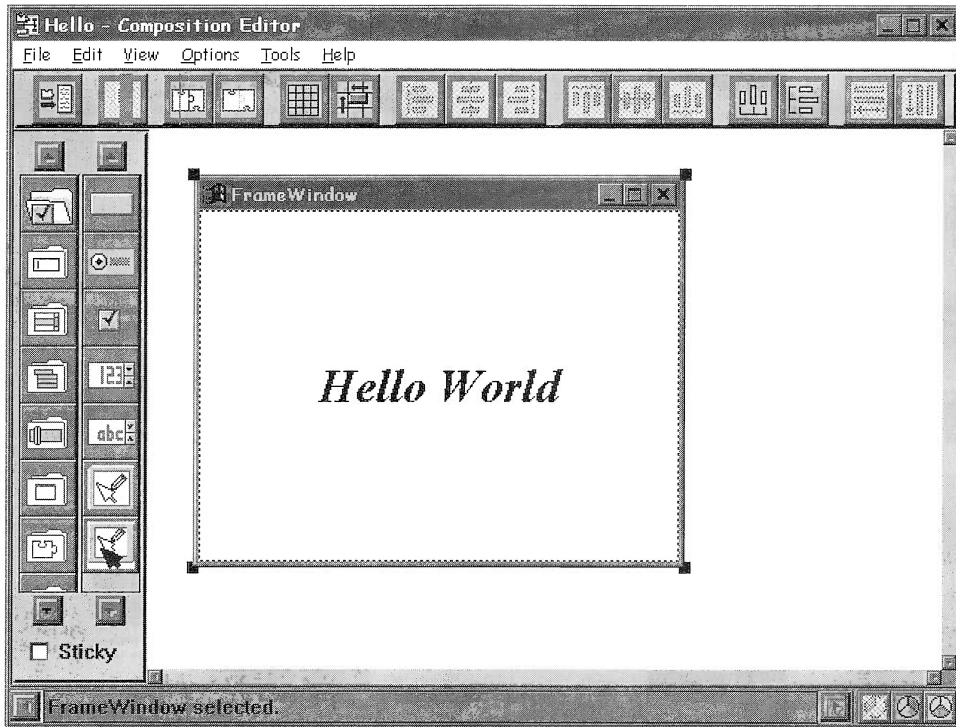

Figure 25: Hello World with formatting applied
- ❑ Select **OK** on the font dialog box and select **OK** again on the settings notebook. Your text should look like Figure 25. If the words Hello World appear clipped when the new font is applied, you have two choices: